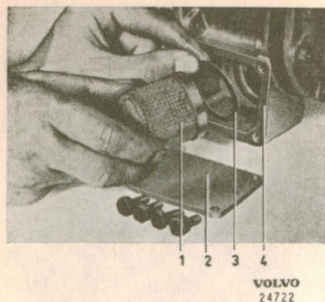

Fig. 12-11. Removing the overdrive oil strainer
1. Remove the cover (2, Fig. 12-11) and take out the oil strainer (1).
3. Check that the gasket (3) is in good condition and place it in position. Fit the oil strainer, a new gasket (4) and cover.